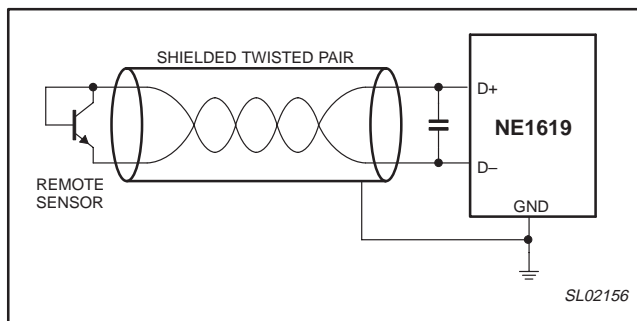

Figure 15. Using shielded twisted pair
6. If the remote sensor is operating in a noisy environment and located several feet away from the NE1619, a shielded twisted pair cable is recommended. Make sure the shield of the cable is connected to the NE1619 ground pin, and leave the shield at the remote end unconnected. Shield connecting to ground of both ends could create a ground loop (refer to Figure 15) and defeat the purpose of the shielded cable. Also, cold soldered joints and damaged cable could introduce series resistance and result in measurement error. For instance, a 1 Ω resistance can introduce a change of temperature of about 0.5 °C.